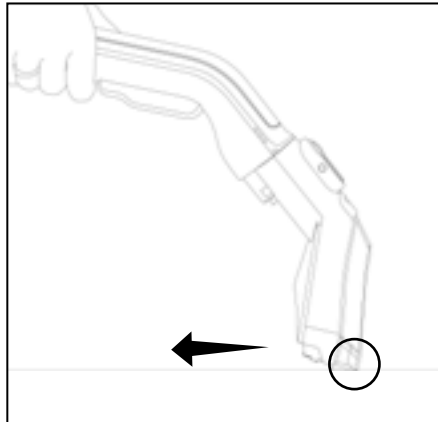

Fig. 5
6. Press the cleaning tool onto the floor whilst pulling back and vacuuming the water up, without spraying any solution and repeat until all solution is vacuumed up. (Fig 5)